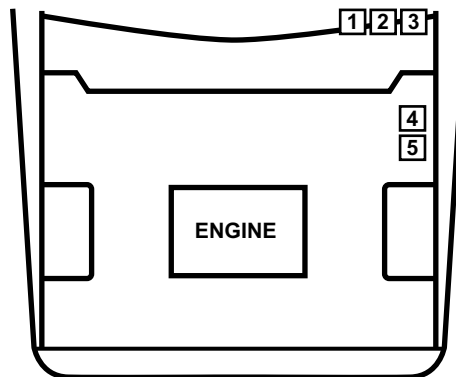

Figure 15-4 Loyale common connector locations
- “Loyale common connector locations” on page 145 (Table 15-4, Figure 15-4)